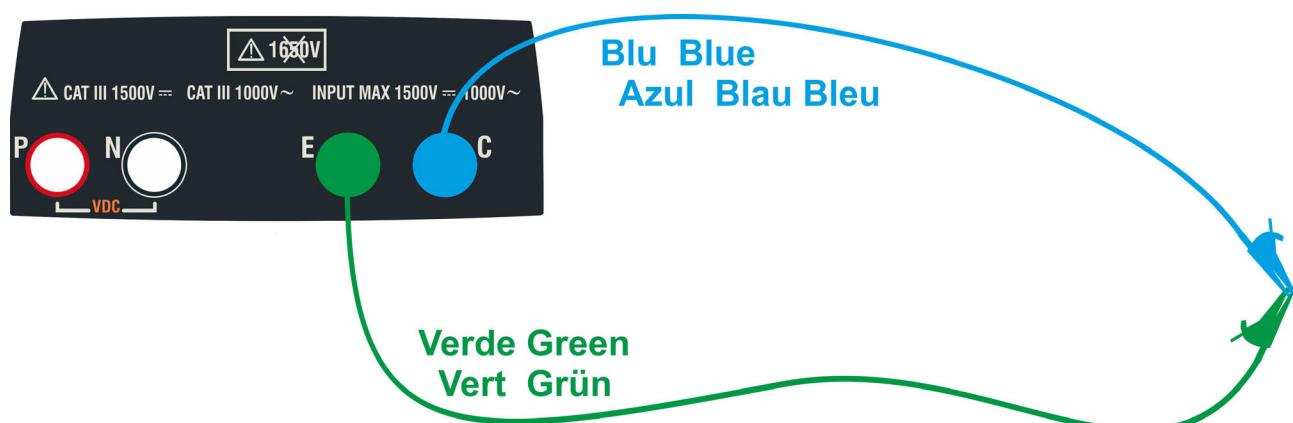

Fig. 4: Compensation of the measuring cables resistance
3. Connect the measuring cables to each other as shown in Fig. 4.